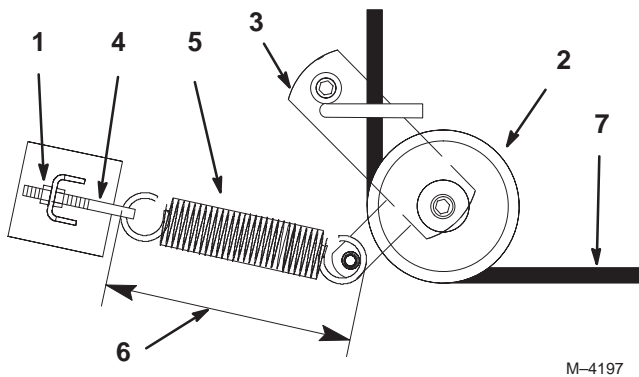

Figure 56
3. Loosen outer nut on spring eye bolt (Fig. 56).
5. Remove spring loaded idler pulley (Fig. 56).
6. Route new belt through idler arm (Fig. 56).
8. Retighten outer nut on spring eye bolt (Fig. 56).
Note: Check spring length. The spring should measure 9-3/8 inch ± 1/8 inch (238 mm ± 3 mm) when installed. Adjust if it does not (Fig. 56).